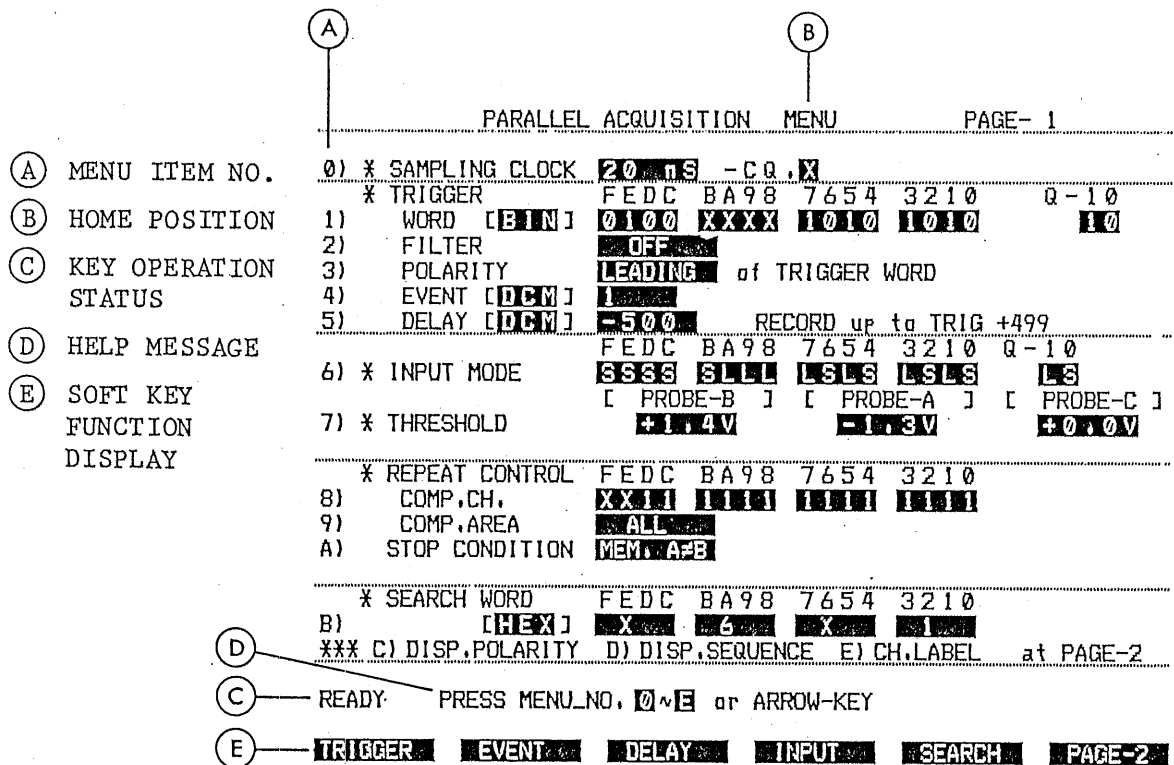

Figure 6.1 Example of MENU Display
When one of a multiple number of items is to be selected the required item is indicated in a SOFT KEY FUNCTION display (Figure 6.1 (E)). Press the SOFT key immediately underneath the indication.
- (1) When setting of the item which is currently indicated by the pointer is exceeding the setting limit value or otherwise invalid, the pointer cannot be moved to other item.
- (2) The DISPLAY SELECT keys (5) - (22) and the DATA RECORD START keys (25) and (26) are constantly effective so far as the settings of all items are meeting the required conditions.
- (3) As you press the [ENTER] key (28), the pointer moves to the setting point at the left hand end of the below item (subsequent item) on the display.
- (4) As you press a POINTER MOVE key (arrowhead key) (32) - (36), the pointer will move in the direction indicated by the arrowhead, except the following cases:
6.1.3 HELP Messages (Figure 6.1 (D))
6.1.4 KEY OPERATION Status (Figure 6.1 (C))